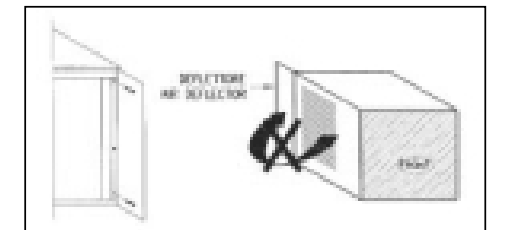

Fig 24.
- 13) Air deflector installation. (Fig.24) The deflector has to be installed in order to prevent the re-circulation of hot air to the condenser.